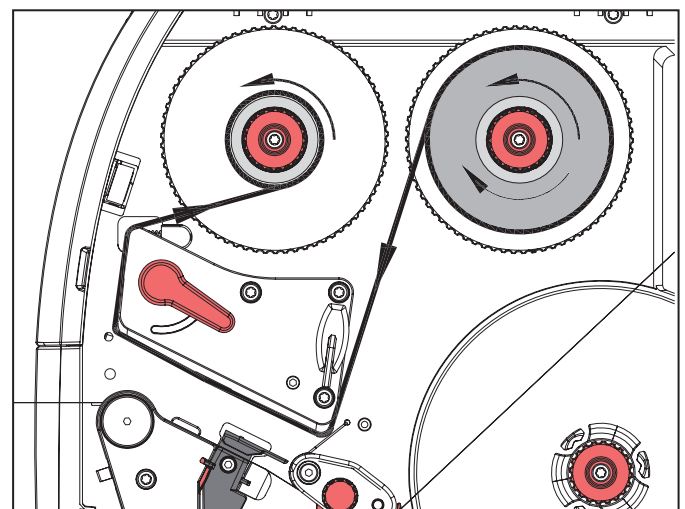

Figure 6.9 Transfer foil run
- ▶ Turn the lever (6) anti-clockwise to release and lift the print head.
- ▶ Slide the transfer foil reel (1) onto the unwinder (2) so that the colour coating on the ribbon points down during unwinding.
- ▶ Position the transfer foil reel (1) on the unwinder so that the scale values on both sides of the reel are identical.
- ▶ Hold the unwinder (2) tight and turn the rotary knob on the unwinder (3) anti-clockwise until the transfer foil reel is fastened in place.
- ▶ Slide a suitable transfer foil core (4) onto the transfer foil winder (5) and fasten it in the same manner.
- ▶ Guide the transfer foil through the print assembly, see Figure 6.9.
- ▶ Fasten the start of the transfer foil on the transfer foil core (4) with an adhesive strip. Make sure that the transfer foil winder rotates anti-clockwise.
- ▶ Turn the transfer foil winder (5) anti-clockwise to smooth the transfer foil run.
- ▶ Turn the lever (6) clockwise to lock the print head.